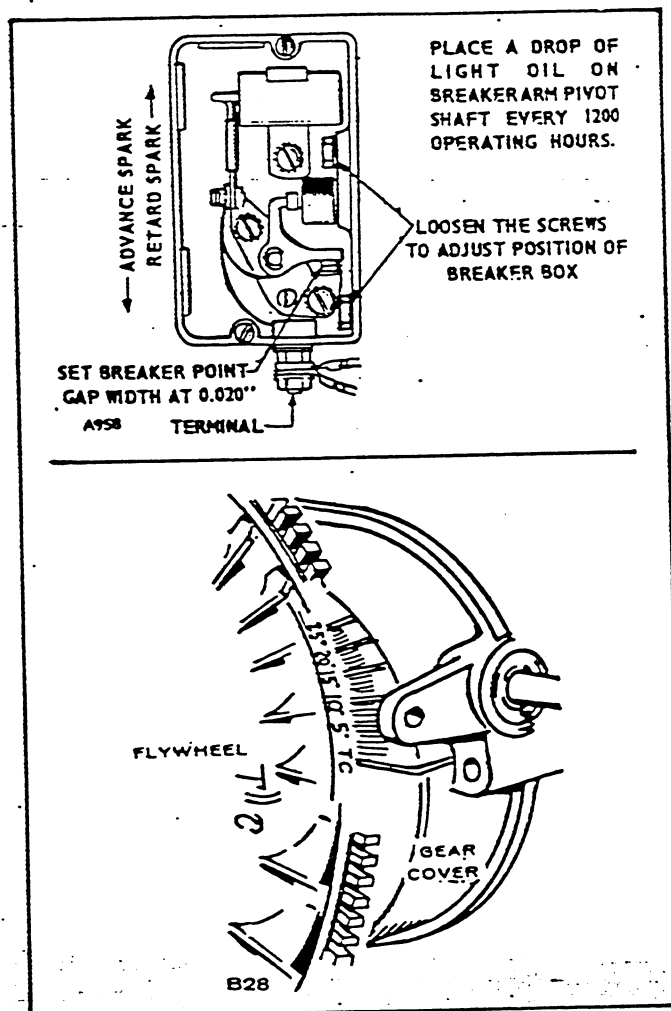

FIGURE 14. IGNITION TIMING
3. Crank the engine over slowly by hand in the direction of crankshaft rotation until the T/C mark on the flywheel and the 22° mark on the gear cover are exactly in line **ON THE COMPRESSION STROKE** (Figure 14).